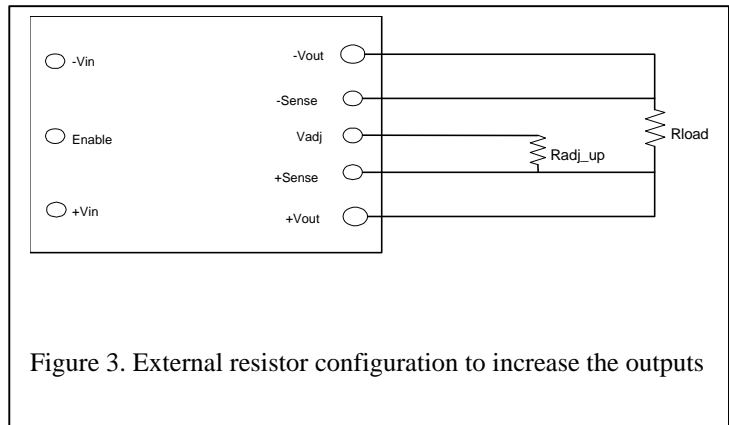

Figure 3. External resistor configuration to increase the outputs
- 12. Refer to Equation (1) and (2) and Figures 3 and 4 for the Output Trim Adjust configuration.